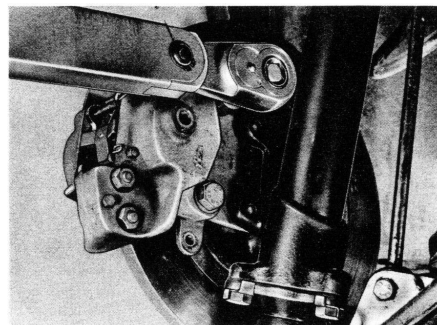

Fig. 4
11. Install brake caliper retaining bolts with spring washers and torque to 7, 0 mkp (50, 6 lb/ft) (see Fig. 4).